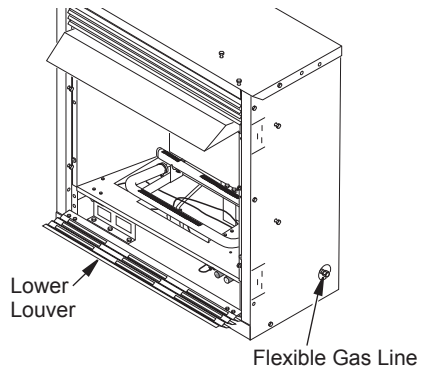

Figure 24 - Flexible Gas Line Location (Remote-Ready Unit Shown)
1. Open lower louver (see Figure 24).
NOTICE: Most building codes do not permit concealed gas connections. A flexible gas line is provided to allow accessibility from the fireplace (see Figure 24). The flexible gas supply line connection to the equipment shutoff valve should be accessible.